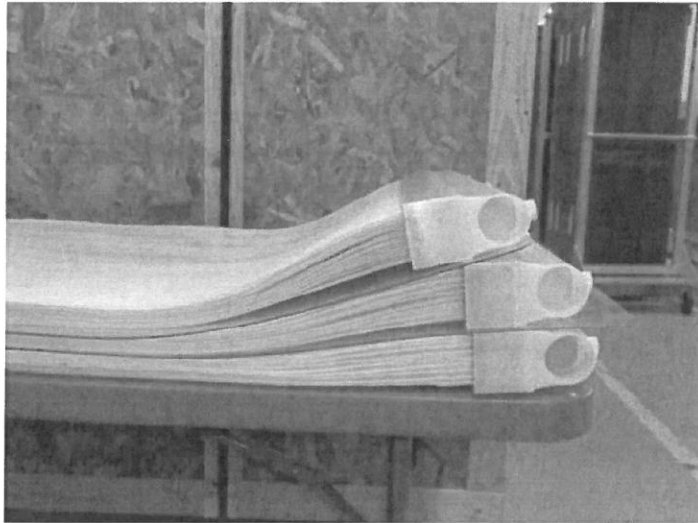

Figure 4-1 Safely stacked modules with plastic sheets in between each other
- For temporary storage several modules can be stacked on top of each other as long as a smooth separating sheet is placed between each module to protect the module underneath (See Figure 4-1 below)